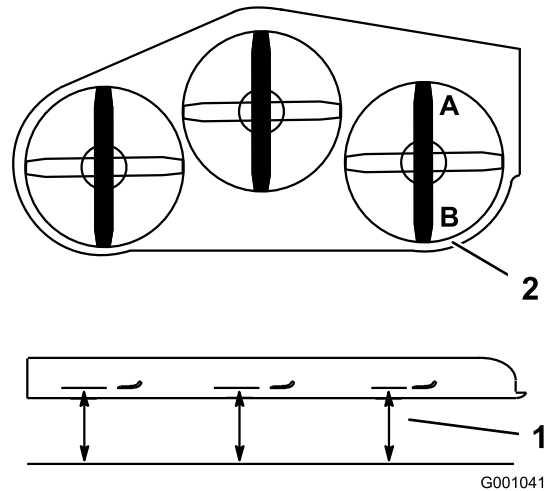

Figure 81
1. Position the **right** blade front-to-rear (Figure 81).
2. Measure the right blade at the **A** location, from a level surface to the cutting edge of the blade tip (Figure 81).
4. Measure the right blade at the **B** location, from a level surface to the cutting edge of the blade tip (Figure 81).
6. The mower blade should be a 1/4 to 3/8 inch (6 to 10 mm) lower at position **A** than at position **B** (Figure 81). If it is not correct, proceed to the following steps.